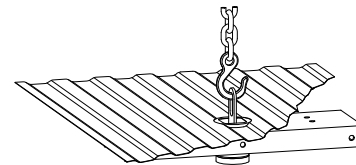

Figure A3
5. **Prepare a lifting device (optional).** The purpose of the device is to safely hold the hitch in position during part of the installation. See figure A3 for an example. A simple mechanical lifting device is available for purchase from B&W.